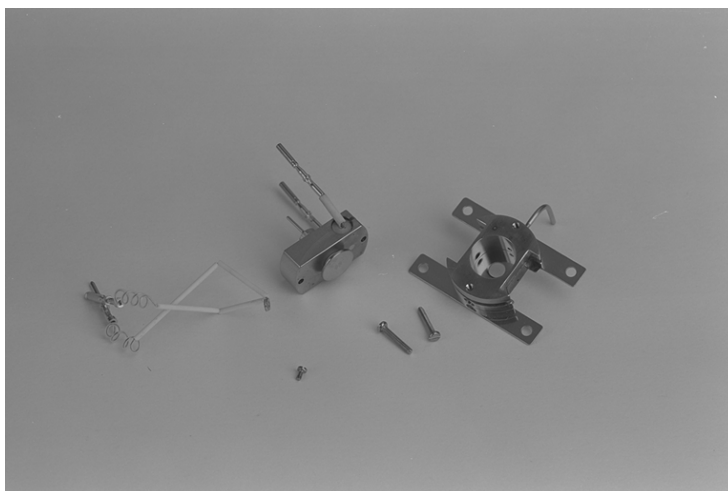

Figure 4-16. Removed thermocouple
9. Undo the fixing screw and remove the thermocouple (see Figure 4-16).